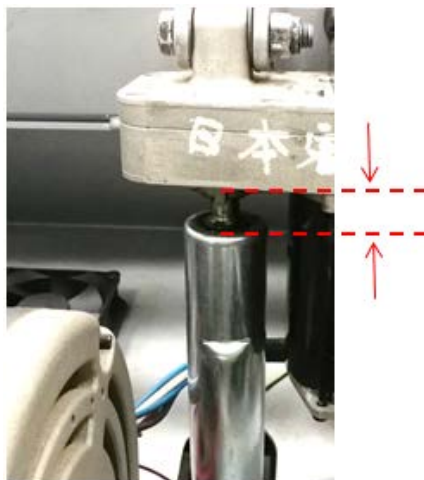

Figure 3: Normal
2. Examine the incline motor and compare it to figures 3 and 4.